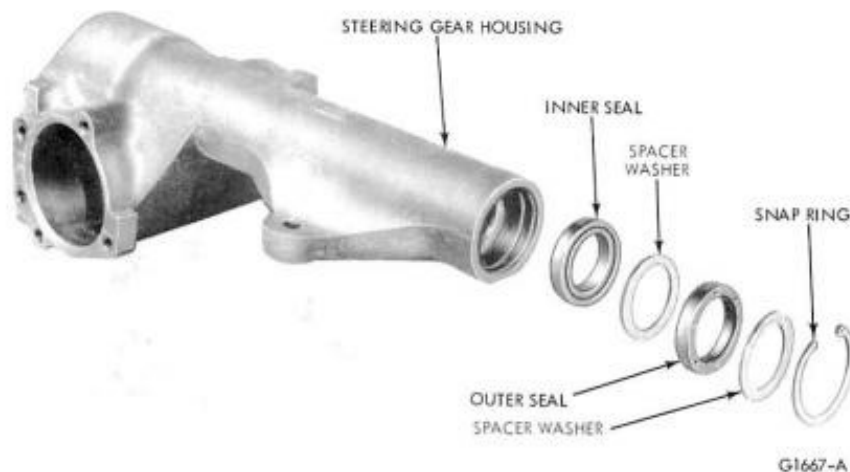

FIG. 19—Steering Gear Housing Disassembled
1. Remove the snap ring and the spacer washer (Fig. 19) from the lower end of the steering gear housing.